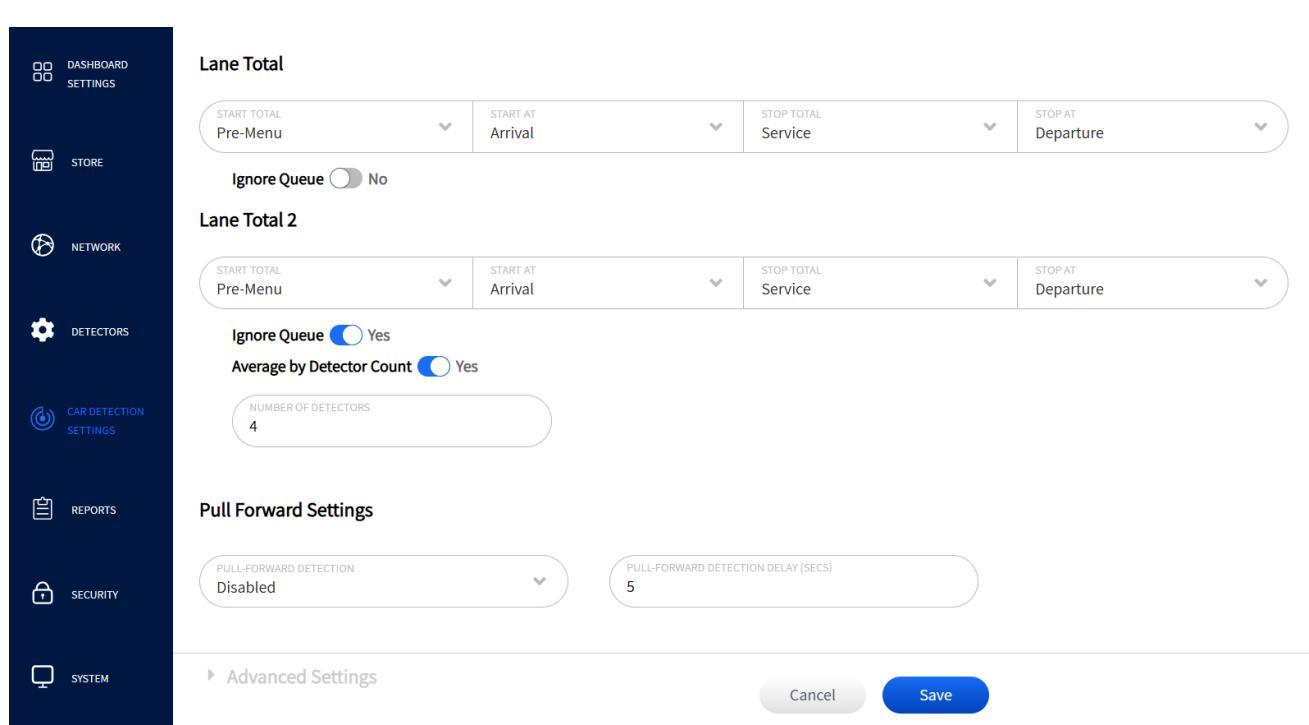

Fig. 7.18
**Average by Detector Count**  **No**: This feature is only applicable to Lane Total 2. When this toggle is switched to “Yes,” the NUMBER OF DETECTORS field opens and defaults to the number of detectors configured. However, this number can be manually changed here if another average is desired using a different number of detectors. This field only accepts a number ranging from 2 to 5. For example, if your total time 2 is two minutes and you wish to average this across four detectors, enter 4 into this field (see Fig. 7.18). The average displayed will be 30 seconds.
**Example:** Fig 7.18 has Lane Total starting when the vehicle *arrives* at the “Menu” detector point and stopping when the vehicle *departs* from the “Service” detector point with the queue time included (NO to IGNORE QUEUE). Lane Total 2 includes the same parameters but with the queue time excluded (YES to IGNORE QUEUE).